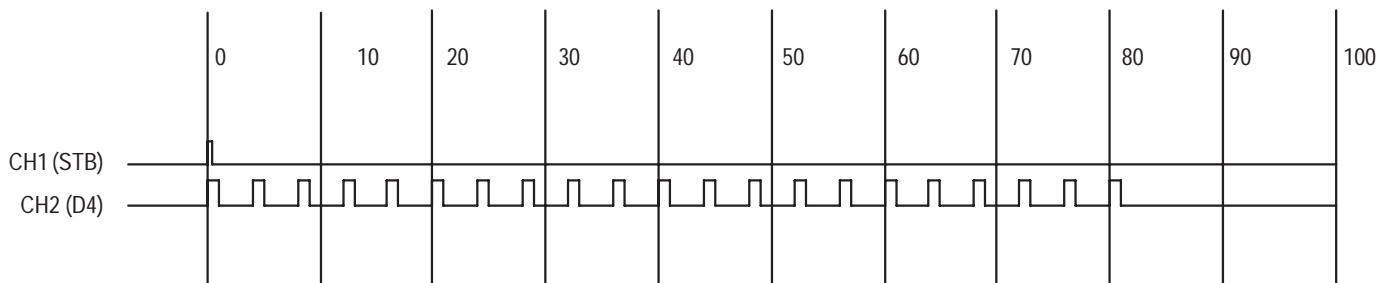

Figure 9–13: Timing chart for the maximum operating frequency check
Prerequisites	Warm-up time: 30 minutes P6470 or P6471 probes connected Test equipment connected as shown in Figure 9–12 Functional Verifications pass Diagnostics pass
6. Verify that the data pattern output from the pattern generator probes is similar to the waveform in Figure 9–13 (ignore the small amount of timing skew between the channels).